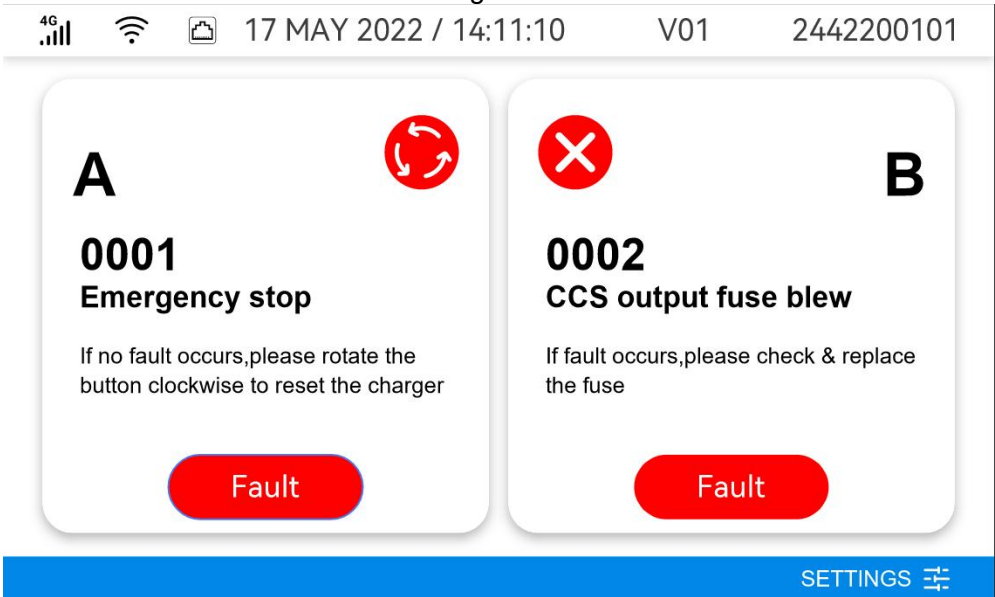

Fig. 6-7 Display of fault state
- If the charging process fails or the equipment fails, the picture displayed on the LCD screen is shown in Fig. 6-7.